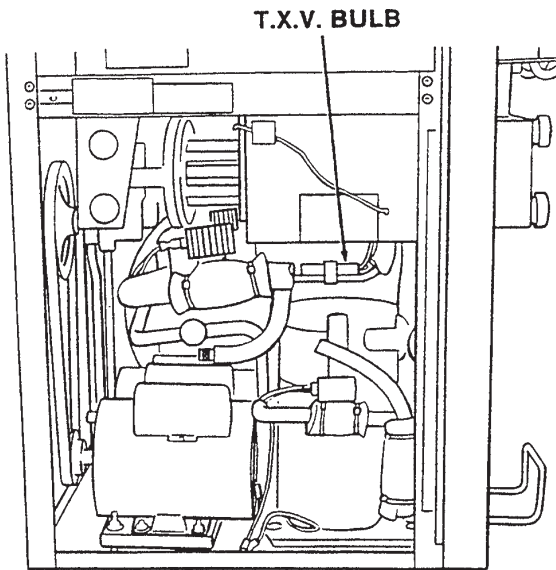

Figure 37. Bulb Installation
6. Install the bulb on the suction line exiting the evaporator (Figure 37). The T.X.V. bulb should always be mounted on the top of the horizontal line. Good contact between the bulb and suction line is necessary for proper operation of the valve. The bulb must also be well insulated.